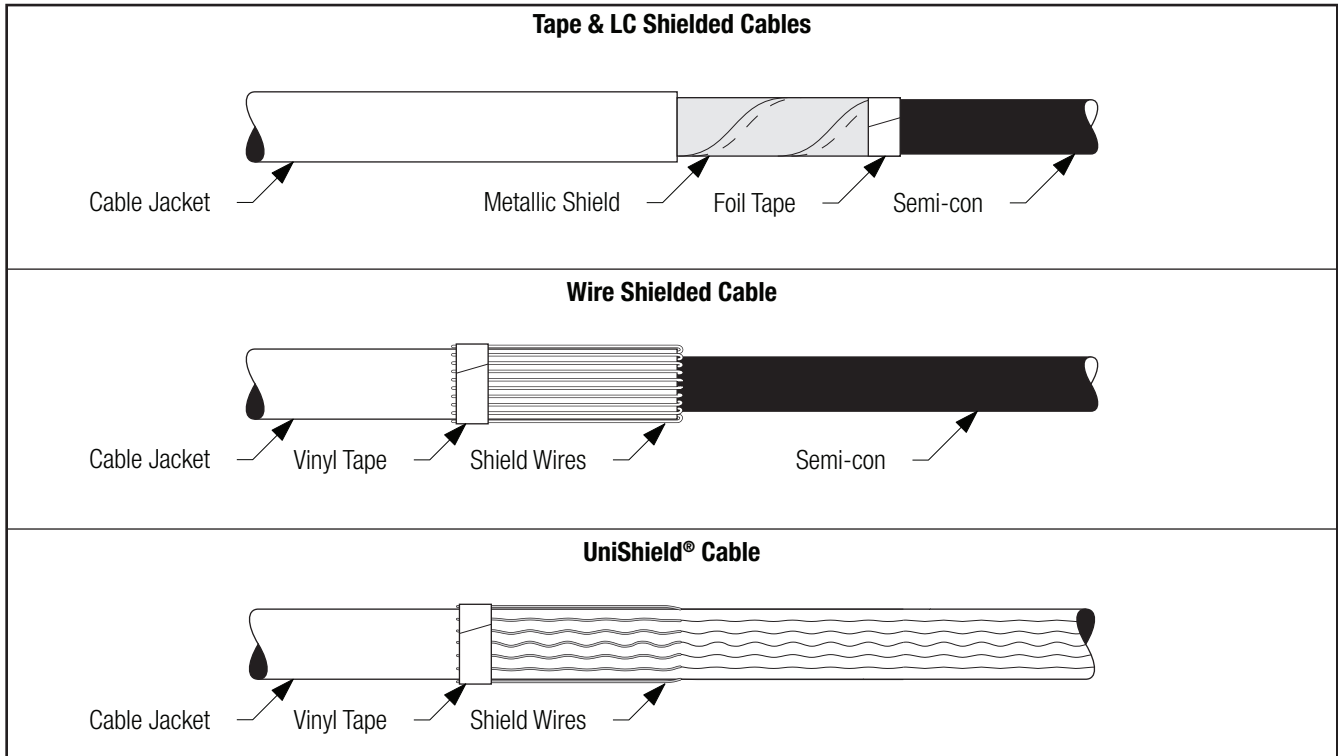

Figure 2
**For Wire shield and UniShield®:** Carefully bend shield wires back over cable jackets and temporarily secure with vinyl tape. (Figure 2).